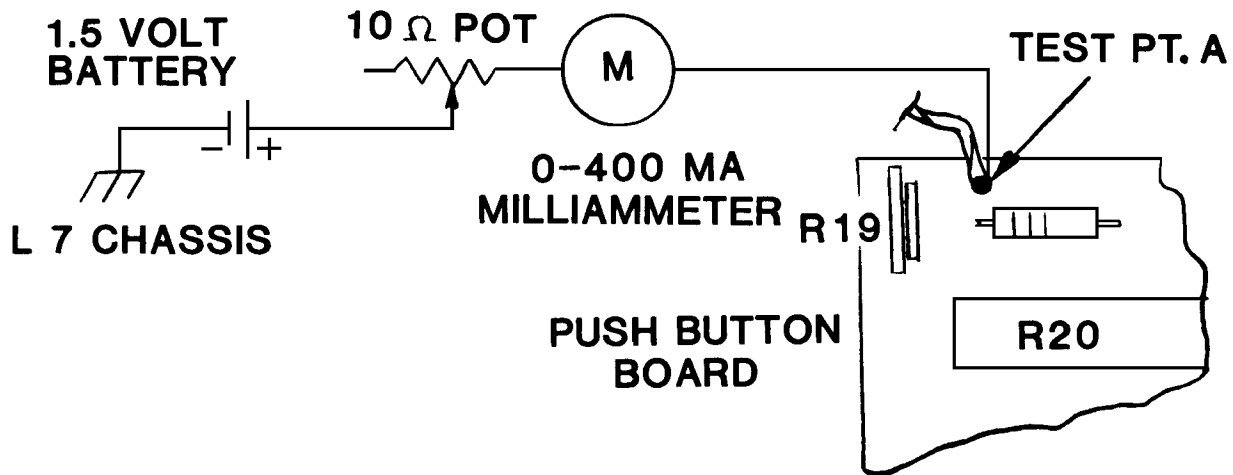

Fig. 5-3 Connections for Grid Current Meter Calibration
3. Make the connections show in figure 5-3.